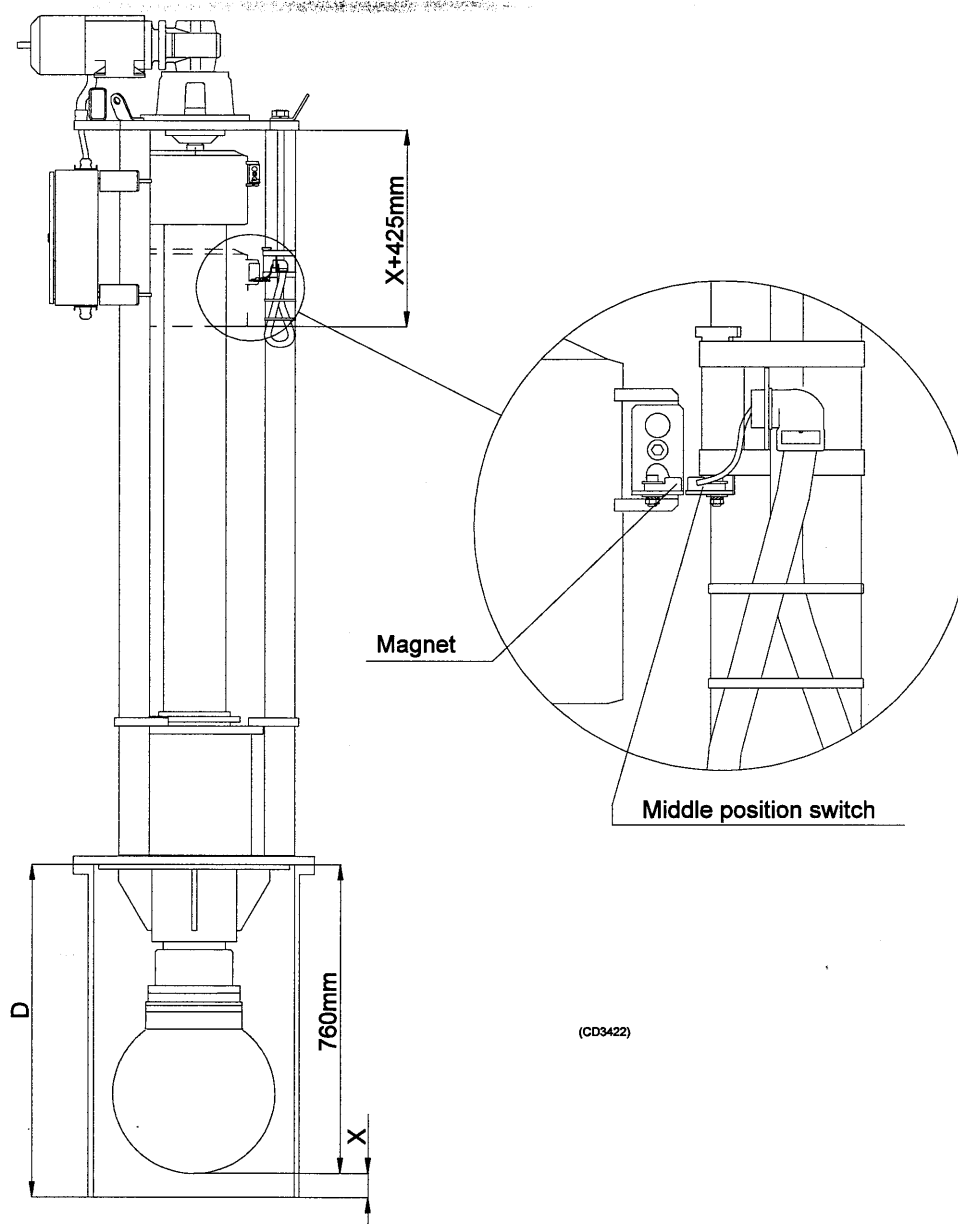

Figure 5 Adjusting the middle position switch
Normally, when the transducer is selected to middle position on the Sonar Control Unit, only one half of the transducer face should be outside the sonar trunk (see figure 5). The middle position switch, which is a magnetic switch, must then be adjusted according to the trunk length:
- ☐ With the Hull Unit fully hoisted to upper position, measure the distance x between the bottom of the transducer and the trunk end. See the lower part of figure 5.
- ☐ Use the hoisting/lowering switch in the motor control unit to position the transducer in the calculated correct position $x + 240$ mm (see figure 5).
- ☐ Loosen the bracket for the middle position switch and align the switch relative to the magnet as shown on figure 5. If needed, spare cable is coiled up behind the bracket.